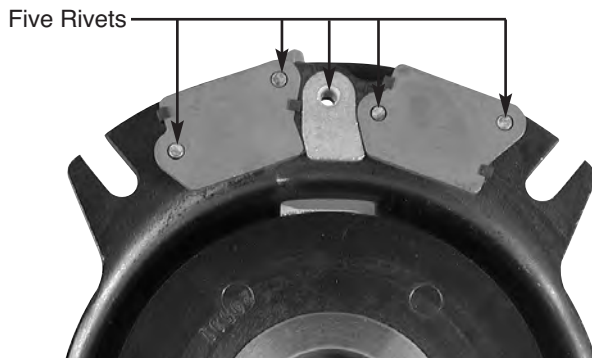

Figure 2
4. Use appropriate sized punch to drive rivet from factory brake components. Discard old brake components. (See Figure 2)